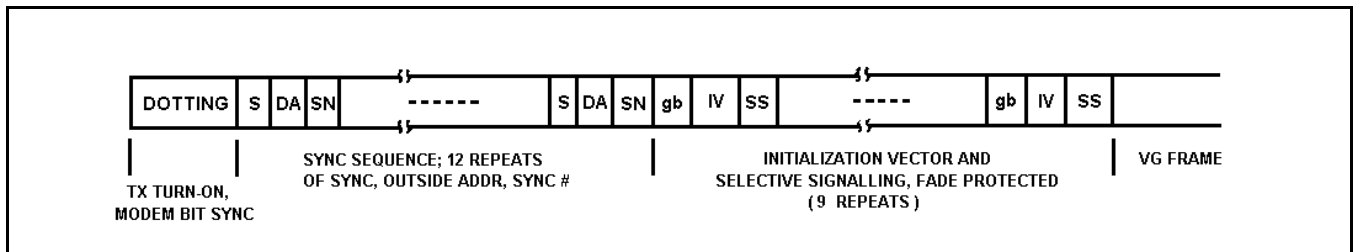

Figure 2 - Preamble Format
At the start of a transmission (PTT), a preamble consisting of repeated sync, initialization vector (IV) and addressing information is sent before voice encryption begins. The preamble provides a high probability of correct reception of sync, IV and repeater address (see Figure 2).